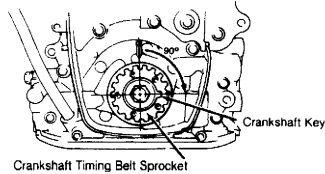

Fig. 10: Positioning Crankshaft Timing Belt Sprocket For Camshaft Removal (DOHC)
1) Remove negative battery cable. Remove timing belt. See TIMING BELT under REMOVAL & INSTALLATION. Turn crankshaft timing belt sprocket key to horizontal position, 180 degrees away from dipstick guide tube. See Fig. 10.